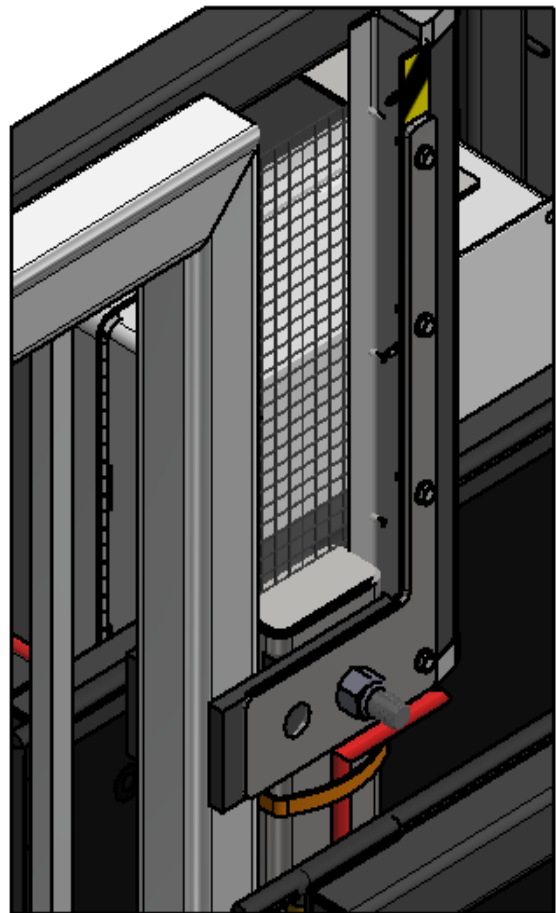

FIGURE 1
- Place **Arm Open Edge** vertically as shown in **FIGURE 1** with the bracket and nut facing the public/false panel side of the gate.